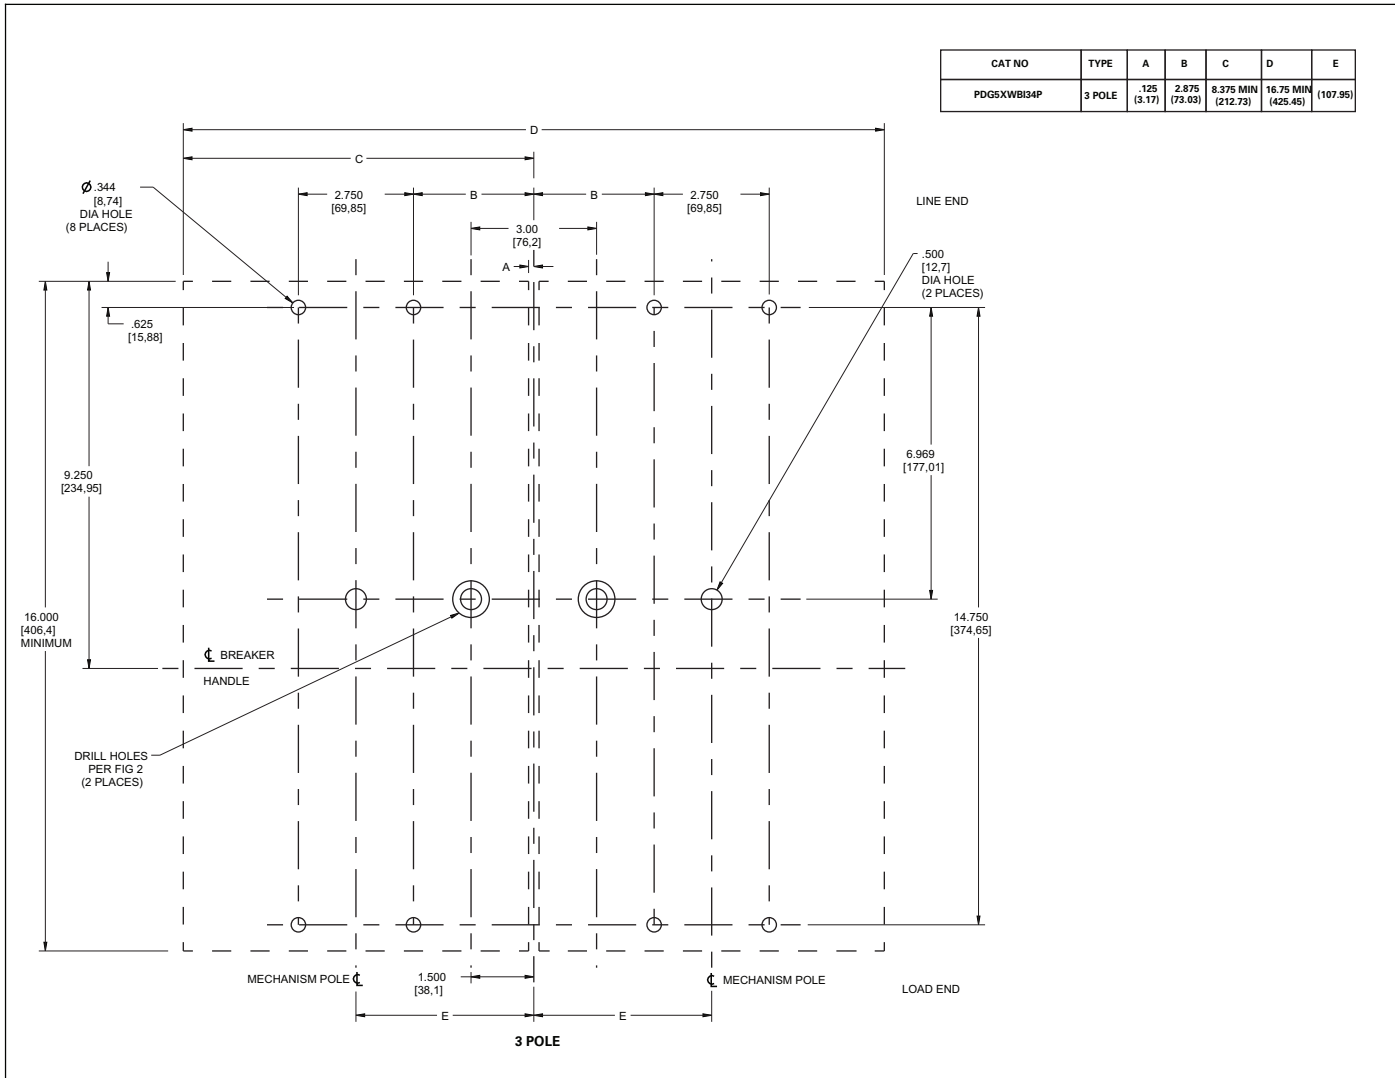
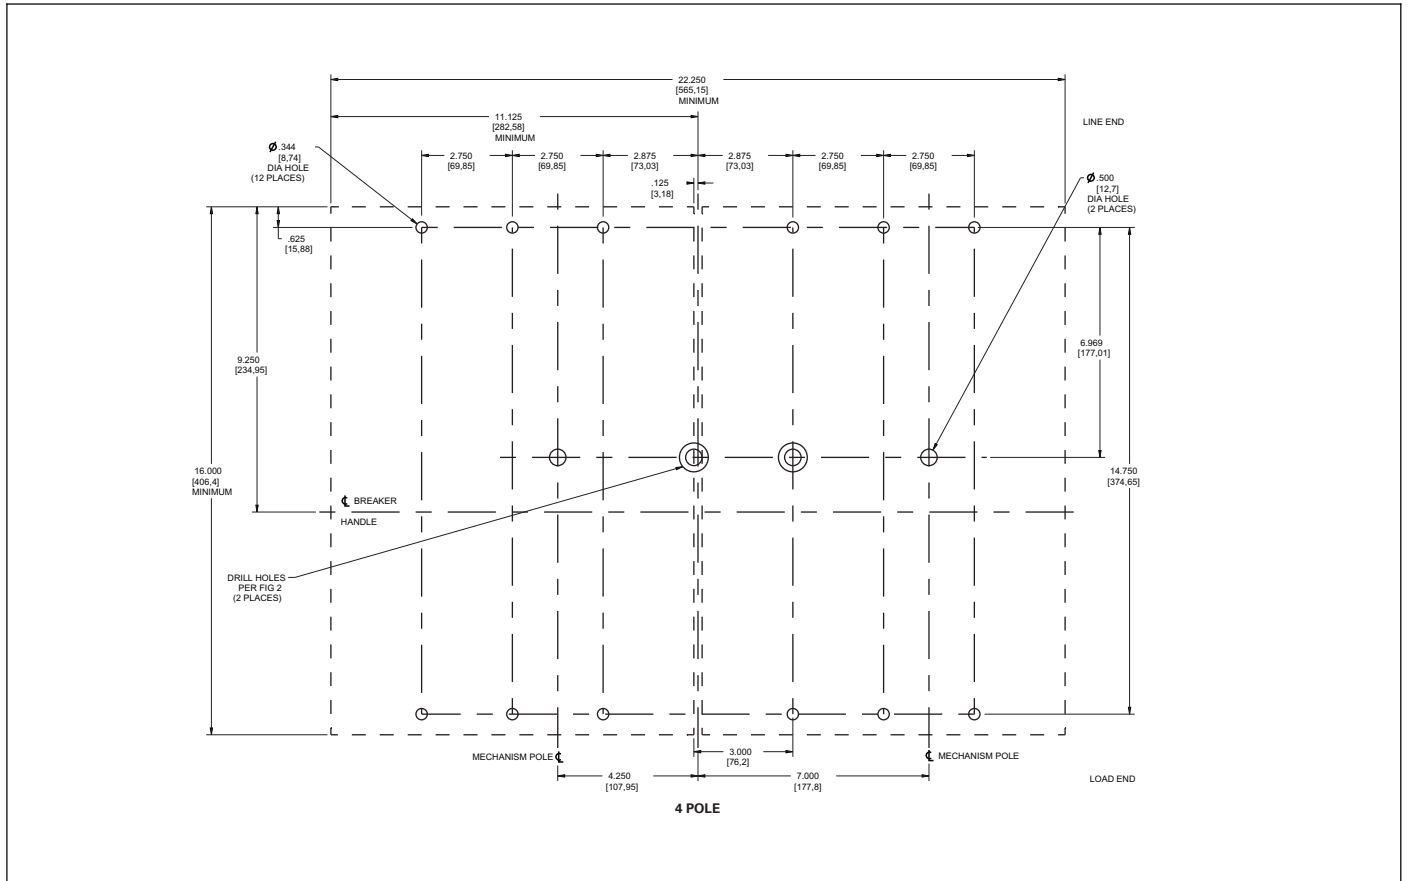

Fig. 2-2. PD5-Frame 3-Pole Circuit Breaker Mounting Panel Hole Sizes, and Dimensions.
Fig. 2-3 PD5-Frame 4-Pole Circuit Breaker Mounting Panel Holes Sizes and Dimensions.
- 2-1. Predrill circuit breaker mounting panel. Fig. 2-2 PD5-Frame, (3-pole) and Fig. 2-3 PD5, (4-pole) show mounting panel hole sizes and dimensions for PD5 circuit breaker configurations. Dimensions are in inches and (millimeters).